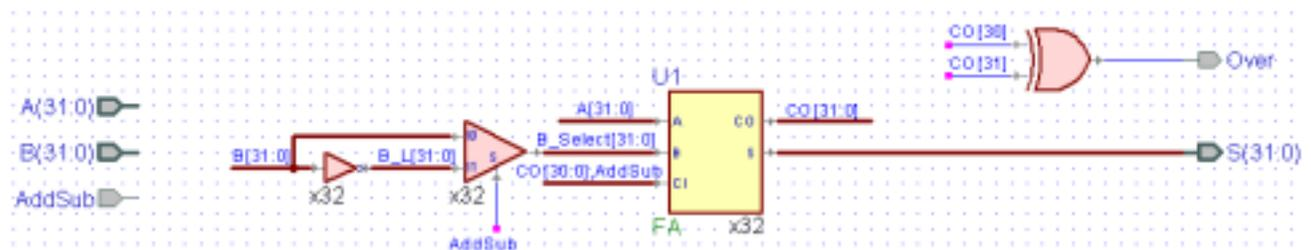

Figure 12
In this portion of the tutorial, you will design a 32-bit adder/subtractor using a full adder. Designing this like we just designed the 4-bit unit would be tedious, painful and error-prone, even taking advantage of cut-and-paste techniques. Active-HDL, however, provides the ability to create arrays of components, which will help to make easy to read designs even when these designs consist of many components. Figure 12 shows the final schematic for the thirty-two-bit adder/subtractor component.
5. Under the “View Texts” tab in Figure 12, check the box next to the “Array Value” option. Then click the OK button.
- to name the buses and set their width to 32. Remember, buses by default are 8-bits and need to be named in order to adjust their width. (Refer back to Figure 12)